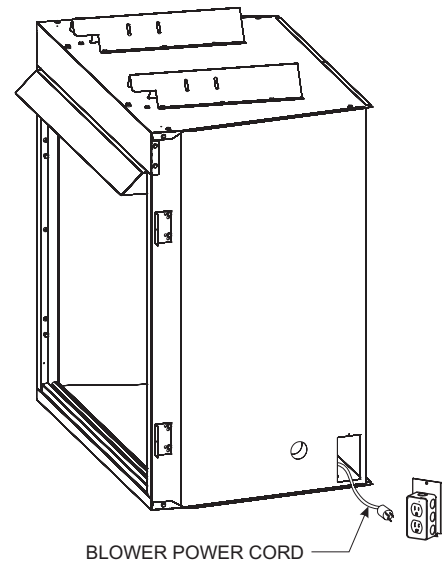

Figure 25
11. To complete the installation, plug the power cord into the junction box receptacle at the right rear corner of the firebox outer wrap. **See Figure 25.**